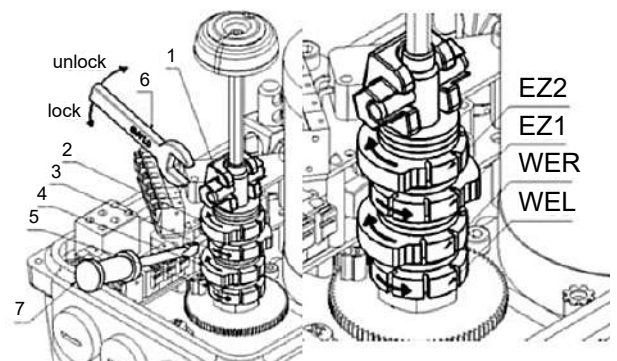

Fig. 4: Setting the limit switches
Move actuator into chosen end position. Open the eccentric tappet (1) using a 10 mm wrench and adjust the switch cam with a screwdriver (7). Close the eccentric tappet again using the wrench (Fig. 4).